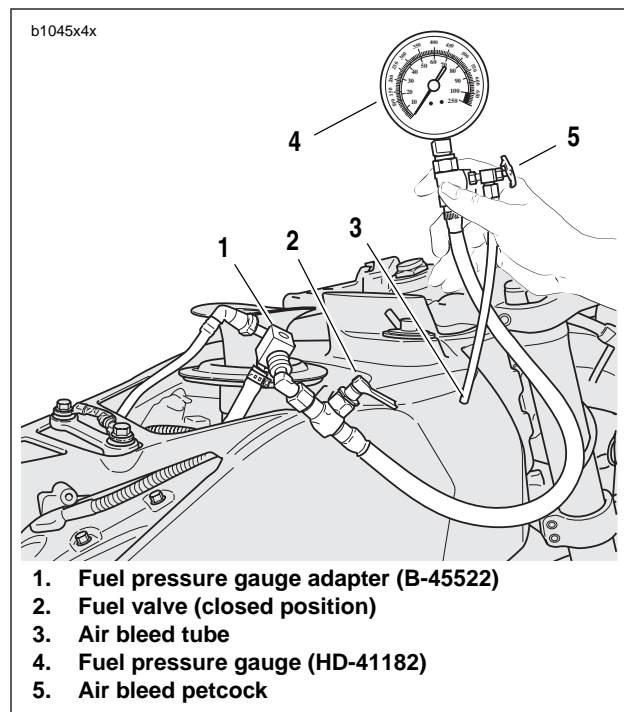

Figure 4-140. Fuel Pressure Gauge (Part No. HD-41182)
- See Figure 4-140. Verify that fuel valve (2) and air bleed petcock (5) on the gauge are closed.
6. Attach FUEL PRESSURE GAUGE (Part No. HD-41182) (4) to fuel pressure gauge adapter (1).
8. See Figure 4-140. Pressurize the fuel system.
- b. Open fuel valve (2) on fuel pressure gauge to allow fuel to flow down the gauge hose.
- c. Position the air bleed tube (3) into proper container.
- d. Open and close the air bleed petcock (5) to purge the fuel pressure gauge and hose of air. Repeat this step several times until only solid fuel (without bubbles) flows from the air bleed tube.
10. See Figure 4-140. Turn engine off. Detach pressure gauge (4) from adapter (1).
- a. Open the air bleed petcock (5) to relieve fuel system pressure and purge the pressure gauge of gasoline.